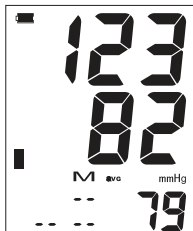

Fig. 1
1. When the monitor is off, press and release the **MEM** button. The average blood pressure and pulse measurement of the most recent three readings will show with the M and AVG icons on the screen, Fig 1.